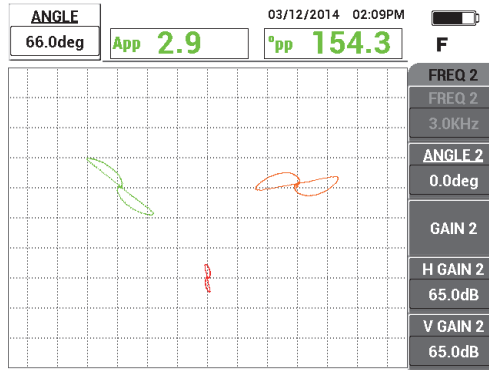

Figure 5-138 Adjusting the frequency 1 signal phase
- Press the ANGLE key (◁/0), and then rotate the frequency 1 signal (green) until the hole signal reaches a phase of about 40° (see Figure 5-138 on page 225).